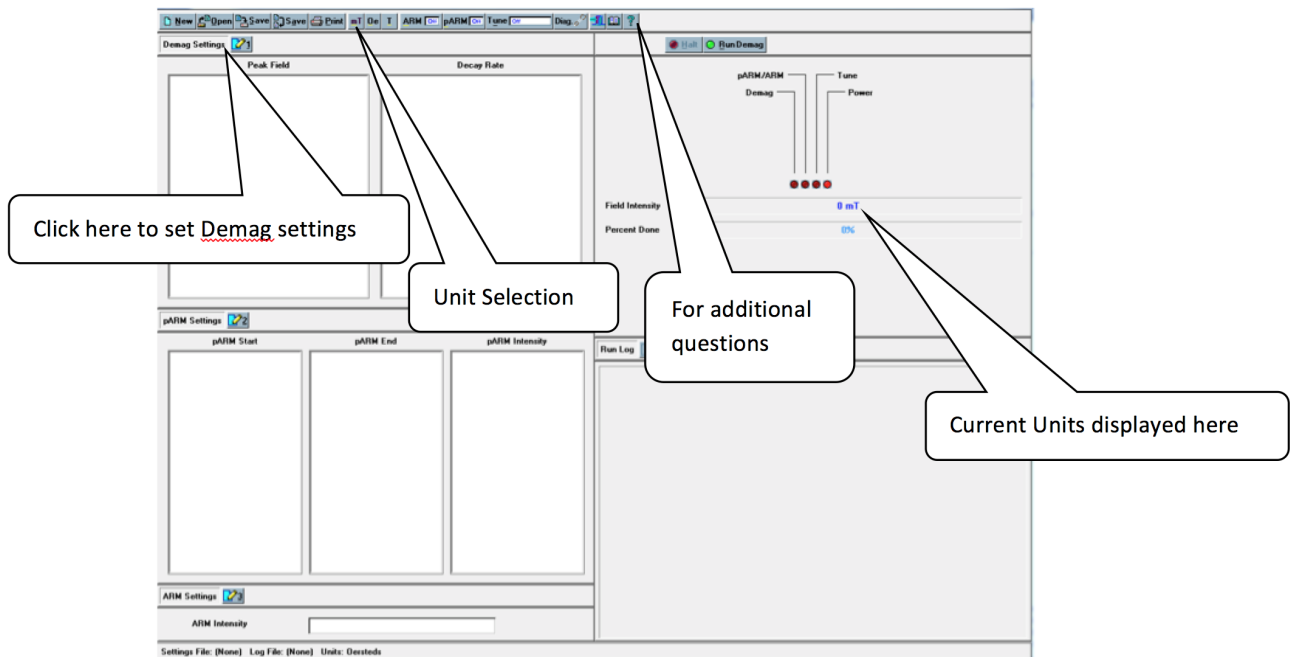

Figure 3: D-2000 Main Screen
1. Double click the D-2000 icon on the desktop of the Dtech computer. The application will launch. (Figure 3).